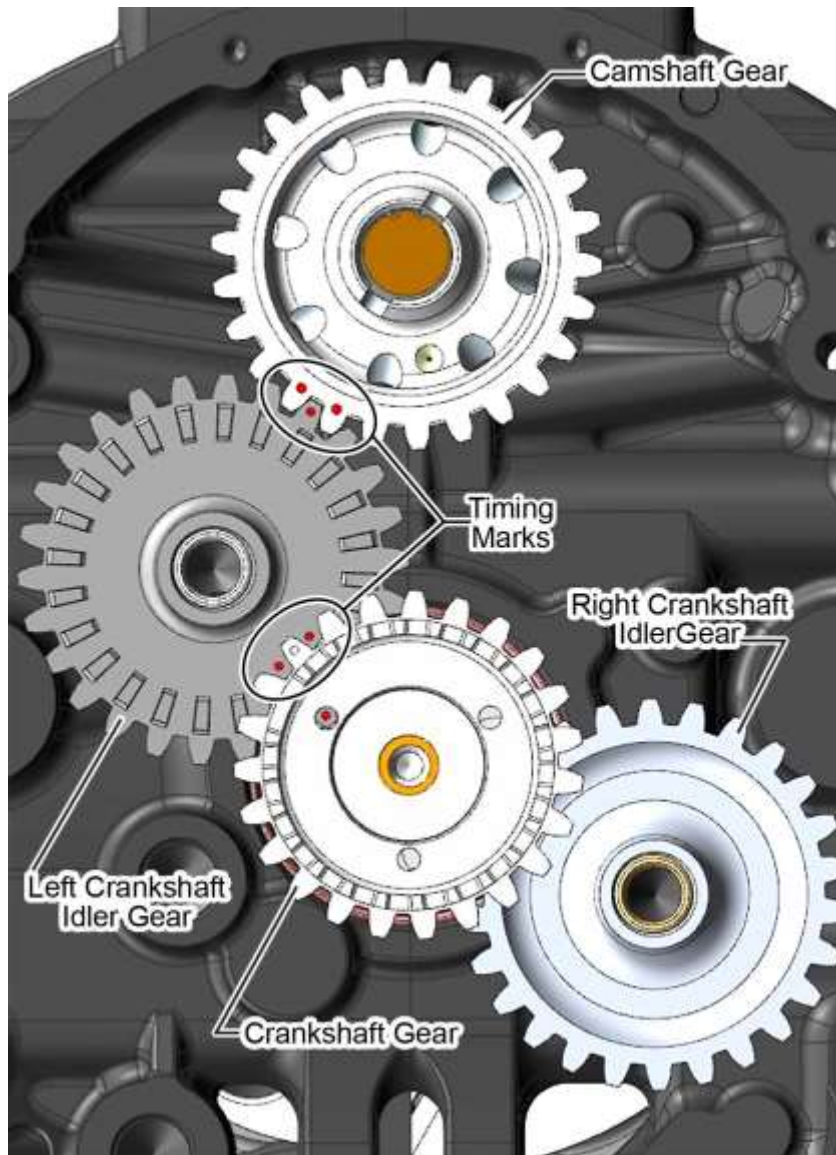

Figure 110
NOTICE: The left crankshaft idler gear, the camshaft gear, and the crankshaft trigger gear assembly all have etched circles, identified below and shown in Figure 110.
- The mark on one gear tooth of the left crankshaft idler gear (Figure 110) must mesh with the space between the marked teeth on the camshaft gear.
- A. Turn the camshaft to position the timing marks as shown in Figure 110.
- D. Turn the crankshaft until the alignment dowel in the counterbored end aligns with the hole in the crankshaft trigger gear assembly pilot flange. Make sure the timing mark on the gear tooth of the left crankshaft idler gear (Figure 110) aligns with the space between the marked teeth on the camshaft gear.